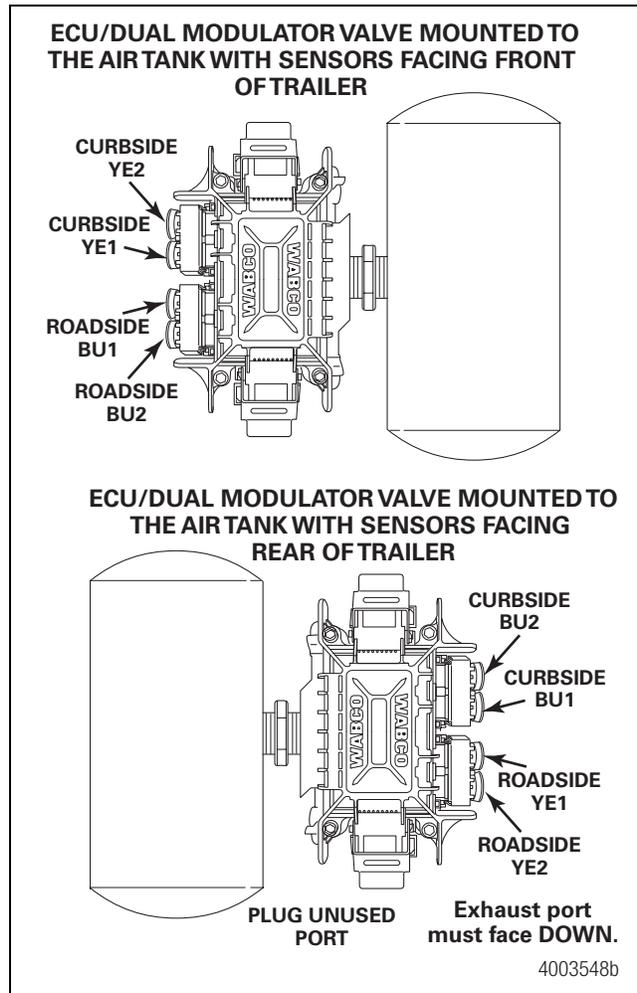

Figure 2
- Rotate and tighten the ECU/dual modulator valve assembly until the exhaust port faces DOWN and the connection is secure. Use a torque wrench or ratchet with an extension at the 3/4-inch pipe plug installed on the front supply port. Figure 2.